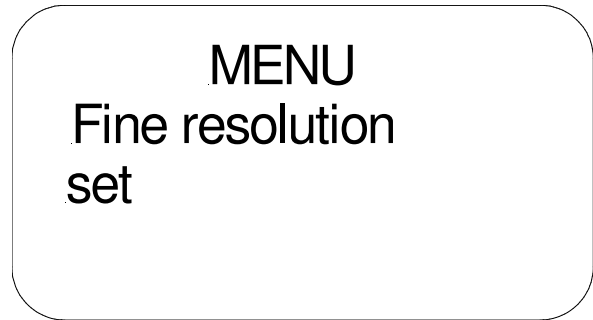

Fig. 26
- Turn the large turning knob (fig. 21.2) in a counter clockwise direction to the submenu: "Fine resolution set" (fig. 26).